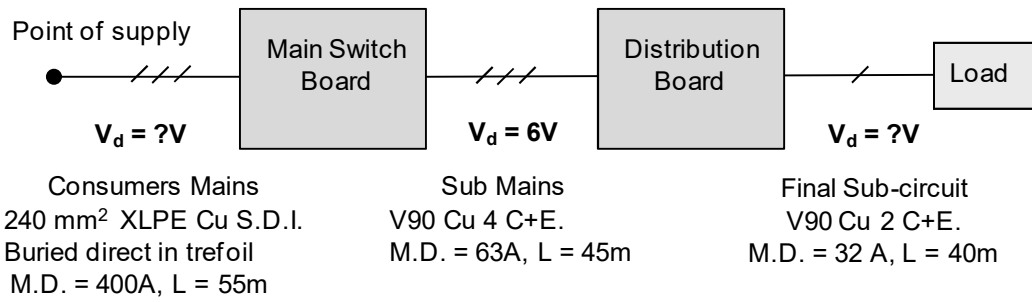

figure 4
13. For the installation in figure 4 determine the;